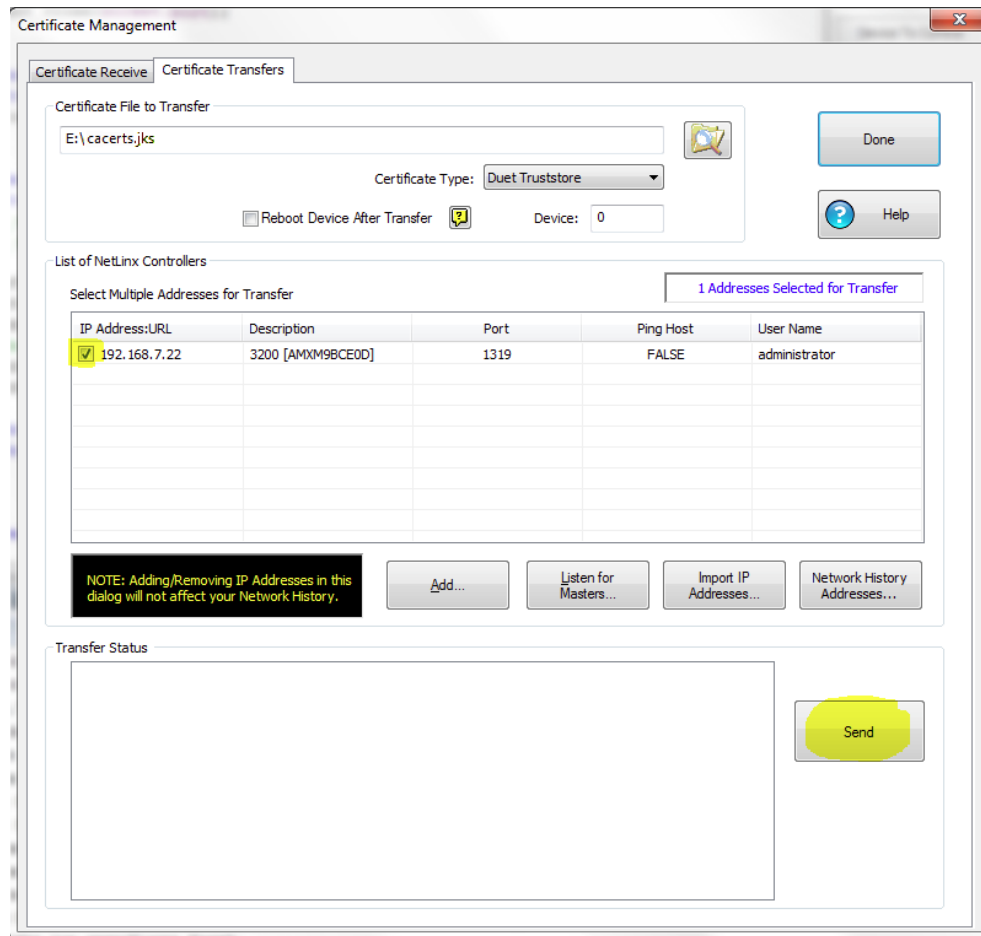

FIG. 480 Certificate Management - Transfer tab
- Make sure that the checkbox besides the masters IP address/URL is ticked and click **Send** (FIG. 480):